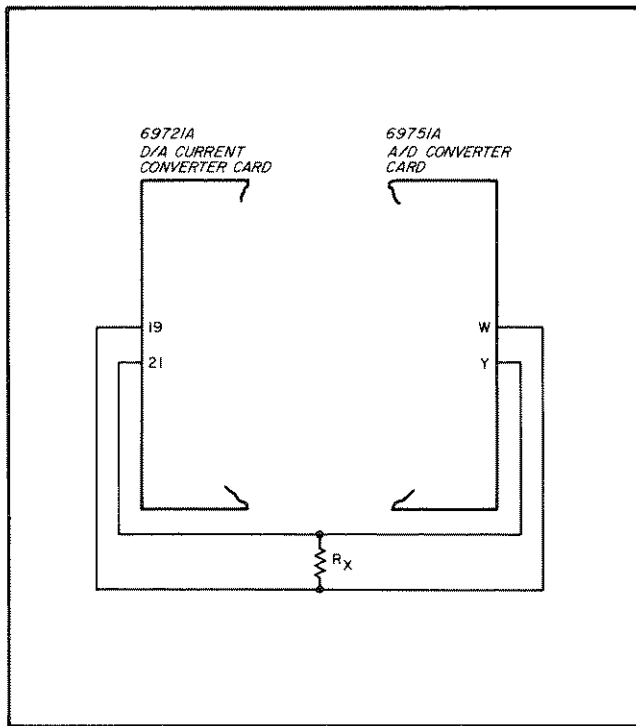

Figure 7-2. Resistance Measurement Connections
7-160 Example 7-50 illustrates use of a 69721A D/A current Converter card in conjunction with a 69751A A/D Converter card to measure the value of a resistor. This example assumes that the 69721A D/A card is installed in slot 2 and the 69751A A/D card is installed in slot 3. Connections between the cards and the resistor being measured (RX) are shown in Figure 7-2.